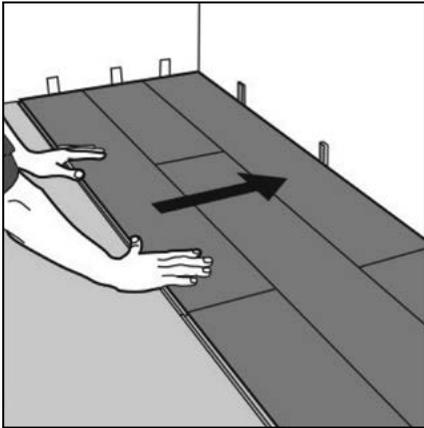

Figure 28 Remaining rows
- ▶ Remember to place spacers to ensure the correct expansion gap has been left at the walls; (fig. 28 overleaf). Continue in this way to the last row.